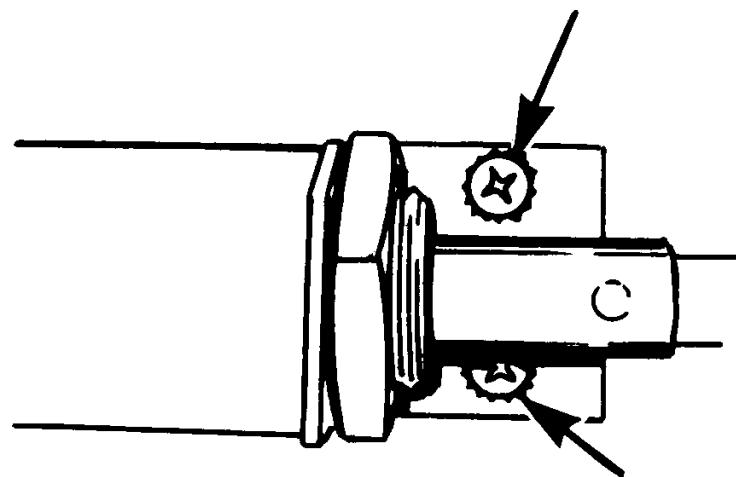

Figure 4-13 Disconnecting Solenoid
- 6.1 Disconnect Solenoid cable from J7 on Logic Board.(Fig. 4-13)